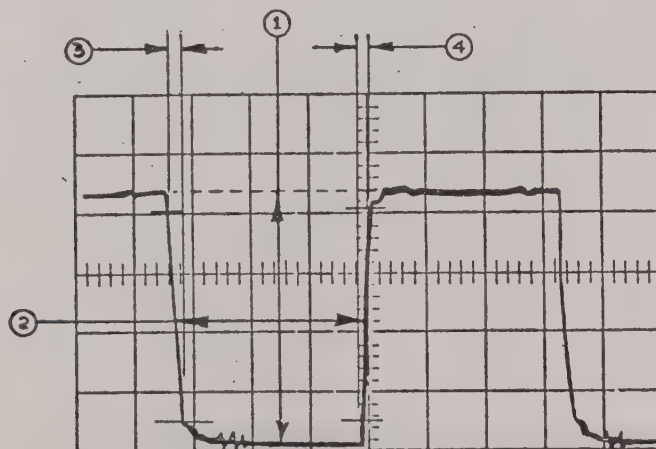

Figure 5-11: Transmit Bit Sync
- d. Adjust the Oscilloscope's trigger level and position controls for the waveform of Figure 5-11. Measurement ① should be between 4.5 and 5.5 cm (4.5 and 5.5 volts.) Measurement ② should be between 3.0 and 3.5 cm (300 and 350 nsec). Measurements ③ and ④, taken at the 10% and 90% points, should be less than 0.5 cm (50 nsec).
- e. Using the 100 ohms, 1% Resistor whose ends are wired to alligator clips, fasten the Resistor between the probe's tip and the GRD terminal. Measurement 1 of Figure 5-11 should now be not less than one half of Measurement ① taken in the previous step.
- f. Remove the probe tip and resistor from the TRANSMIT BIT SYNC jack. Insert the probe without Resistor into the RECEIVE BIT SYNC jack, and repeat steps d and e, above, using Figure 5-11 and the assigned measurement values.